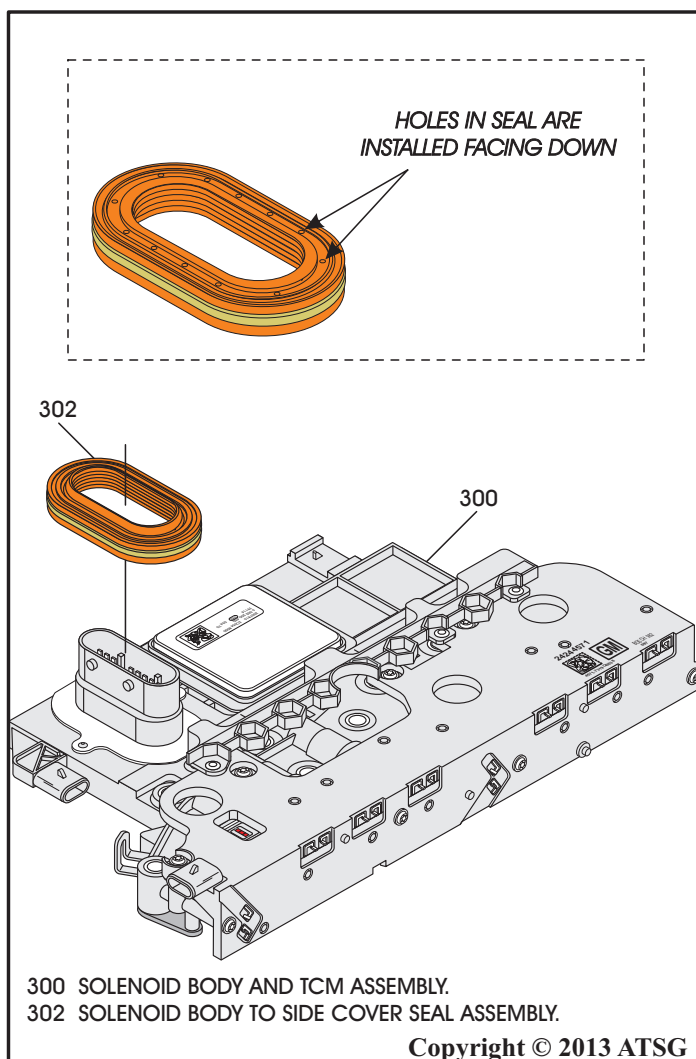

Figure 167
7. Install a new solenoid body to side cover seal assembly, as shown in Figure 167.